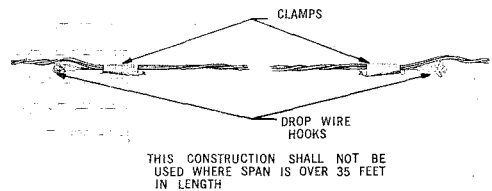

Fig. 10 — Span Less Than 35 Feet in Length
14.04 Where only a few bridle wires will be run and the span is 35 feet or less in length, the construction shown in Fig. 10 may be employed.